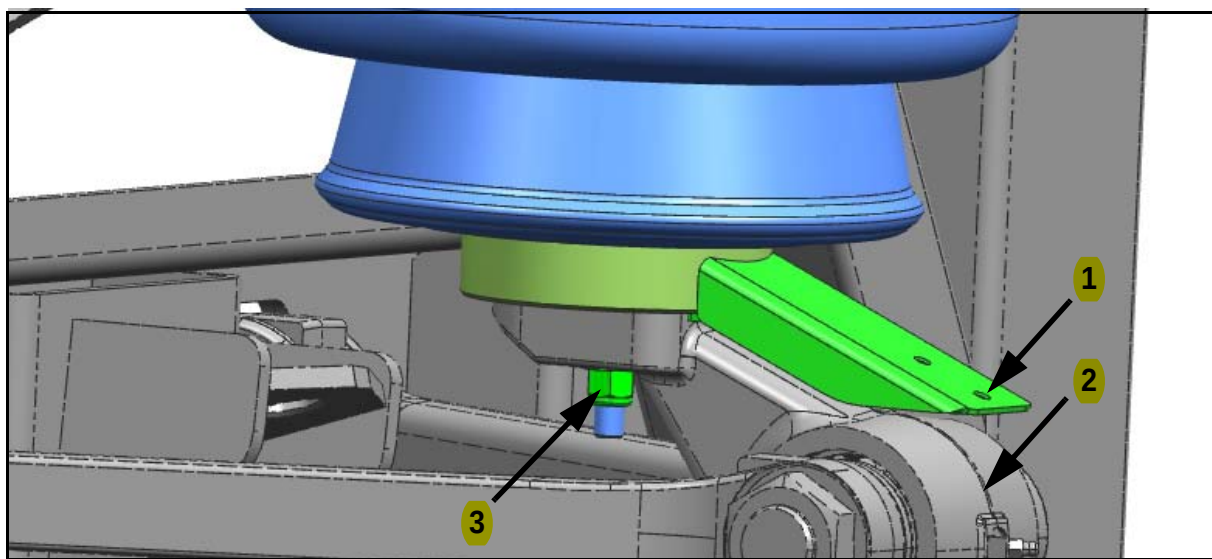
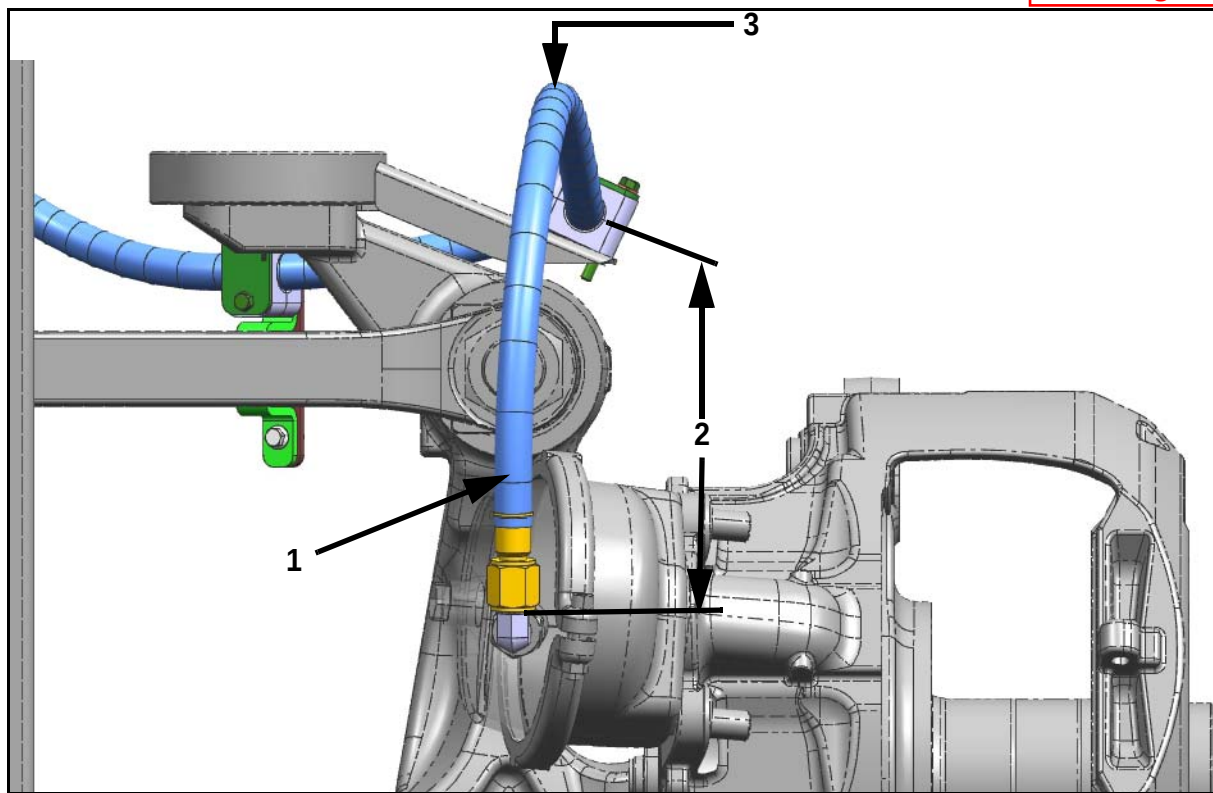

Figure 14.
Figure 16. **was - Figure 14**
37. Using a square or straight edge, ensure that the geometry of the first brake hose clamp is parallel to the center of the kingpin (refer to Figures 14 and 16).
added new Step 37, Figure 14 and Figure 14 Description
If adjustment is required, loosen (do not remove nut from stud) the nylock nut on the airspring assembly and orient to achieve the brake hose clamp parallel to the center of the kingpin (refer to Figure 14). Torque nylock nut to 40-50 ft-lbs.
Item	Figure 14 Description
- was - 38** 40. Starting at the front brake chamber, route the front brake hose assembly to the first brake hose bracket (refer to **Figure 16**). Using the existing mounting hardware, mount (fingertight) the clamp assembly to the brake hose bracket. **was - Figure 14** **was - 29796**
- was - 40** 42. Using a measuring tape, ensure that the front brake hose length is the 22.00 inches between the bottom of the swivel fitting to the inside face of the clamp as shown in **Figure 16**. Tighten clamp to secure in position. **was - Figure 14**
Item	Figure 16 Description
was Figure 16